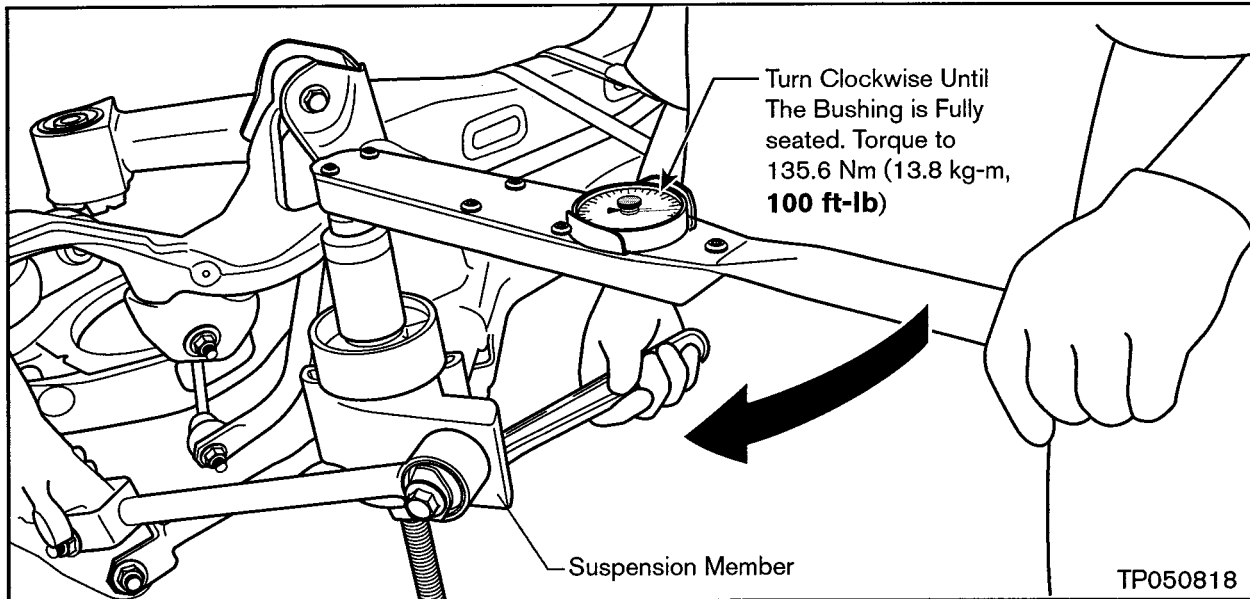

Figure C11
- e. Carefully tighten the nut and press the new bushing in until it's fully seated (see Figure C11).